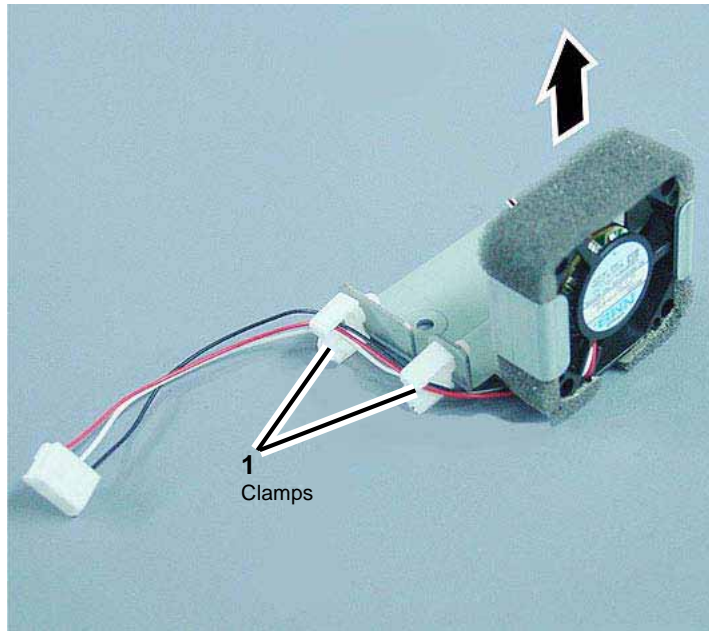

Figure 2 CCD Fan and Fan Bracket
4. Detach the CCD Fan from the Fan Bracket. Figure 2
- a. Release the clamps (2) to remove the wire harness.